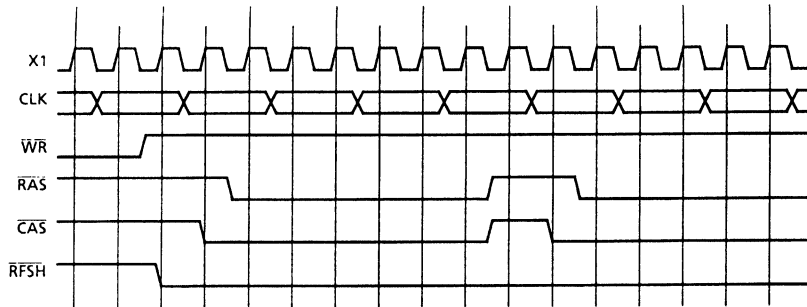

Figure 3.13 (9).  $\overline{\text{CAS}}$  before  $\overline{\text{RAS}}$  Dummy Cycle Timing (Fixed to 4 states)
The dummy cycle width is fixed to 4 states. Figure 3.13 (9) shows the  $\overline{\text{CAS}}$  before  $\overline{\text{RAS}}$  dummy cycle timing.